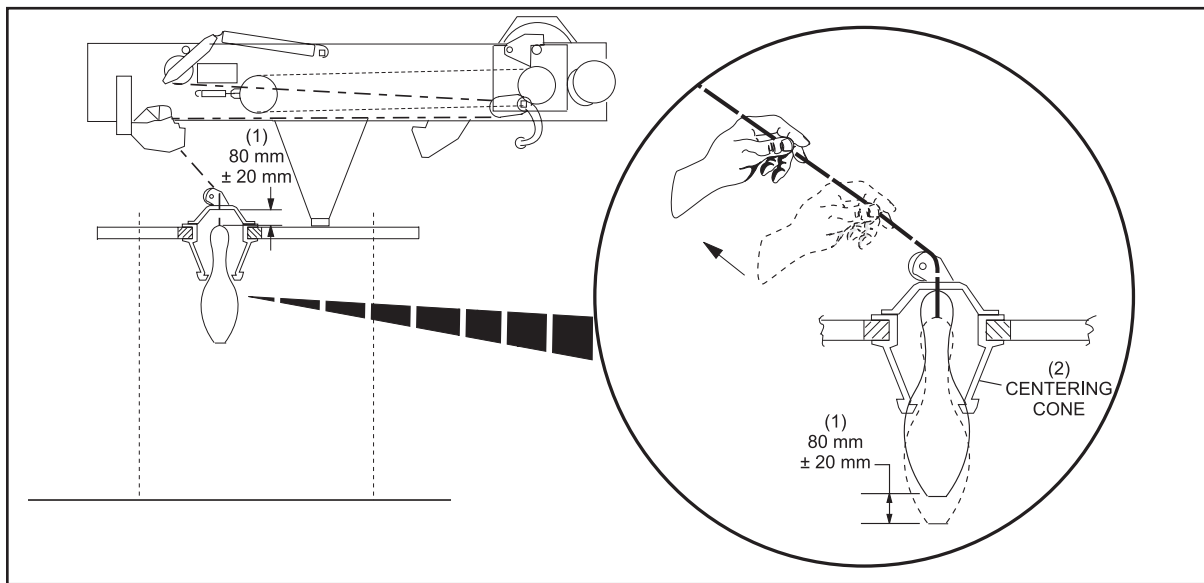

Figure 4-6. String Brake Adjustment
3. Check the movement of a raised pin in the pin centering cone by pulling on its string. The travel distance of the pin should be $80 \text{ mm} \pm 20 \text{ mm}$. Refer to *Figure 4-6*.